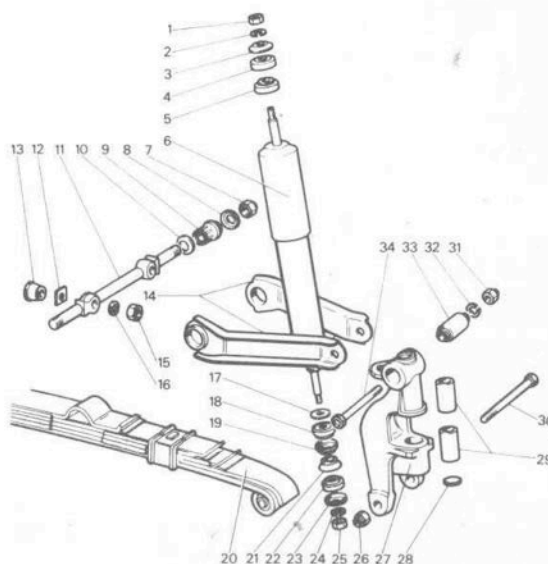

FIG 8:4 Components of the front suspension
Reassemble the spring and, if possible, test it as shown in FIG 8:8. The spring must be loaded as shown in the data and the deflections measured.
The spring must be compressed on tool A.74061, as shown in FIG 8:9. In this position the distance between a line joining the spring eye centres and the lower face of the main spring leaf at a point opposite the two mounting points should be  $1.10 \pm .12$  inch ( $28 \pm 3$  mm). Refer to FIG 8:4 and refit the control arms 14 to the shaft 11 in the position the arms would take up with the spring in the static load condition (see 2 in FIG 8:8). Tighten the shaft nuts to 18 lb ft (2.5 kgm). Connect the knuckle pillar assemblies to the control arms. Set the axis of the
**Key to Fig 8:4** 1 Nut 2 Lockwasher 3 Upper cup